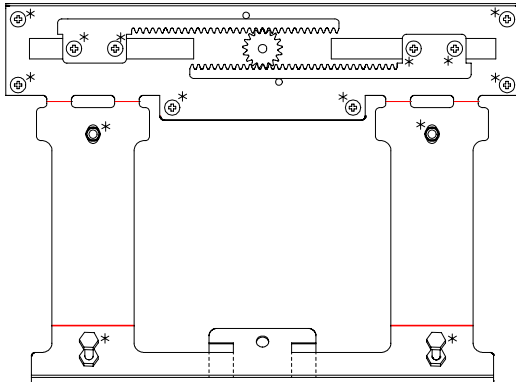

Fig. 5
2. Remove all screws and nuts marked * in Fig. 5 below. Note that the rearmost screw posts will require removal to gain access to 2 of the screws.